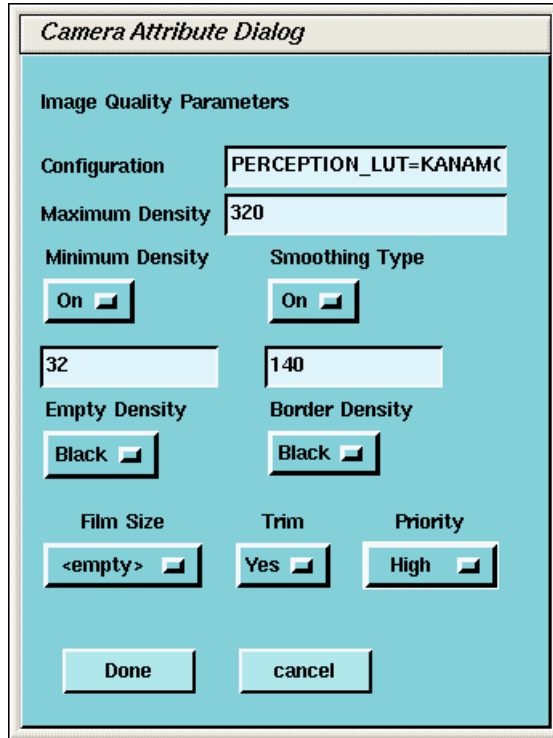

Figure 7-15 Advanced Parameters (Camera Attribute Dialog)
- h.) After the camera has been configured, click the **ADVANCED** button. This creates the camera device file for you automatically and pops up the Advanced Parameters screen. See Figure 7-15.